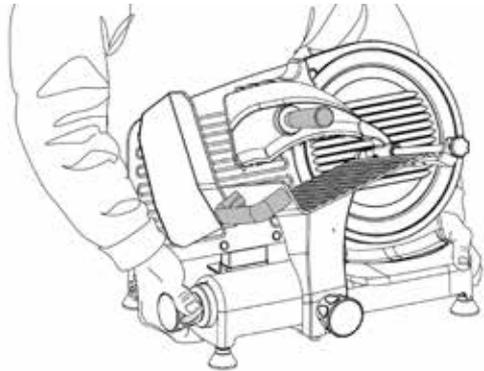

Figure 4. Use two hands to lift as shown.
- You will note that the slicer is equipped with a plexiglass guard (16) on the food carriage (8). It is very important that it not be removed.
- To minimize accidental contact with the blade when the slicer is not in use or **when lifting the slicer**, always turn the thickness control knob (1) fully clockwise so that the thickness control plate (7) covers the edge of the blade.
- When lifting the slicer, position the body and hands as shown in Figure 4, to more uniformly distribute the weight of the slicer and to avoid contact with the blade or with lubricated parts.